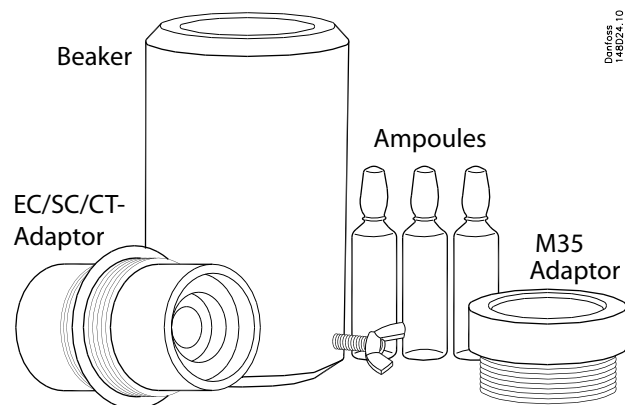

Fig. 5
2. Make sure that both the ampoules and the calibration beaker are clean and dry (see fig. 5).
Place the beaker with the EC/SC/CT-Adaptor over the sensor. It should be as tight fitting as possible to allow maximum exposure to the gas (see fig. 5).